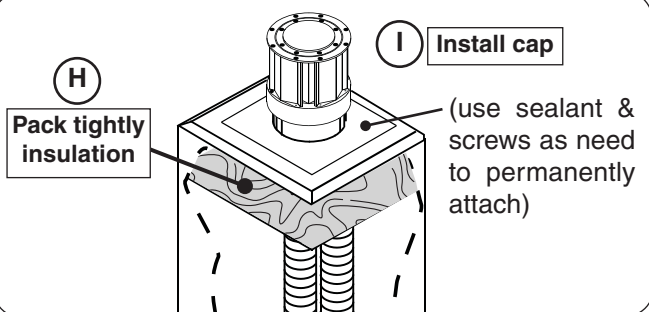

Fig. 24-4 Insulate chimney top & install cap
8. Pack tightly insulation (not included) around the pipes inside the top of the chimney area (prevents moisture and wind from entering chimney). See Fig. 24-4, H.
9. Place the termination cap assembly in position atop the chimney. Permanently attach using Mill-PAC or sealant and screws (as appropriate for setup). See Fig. 24-4, I.